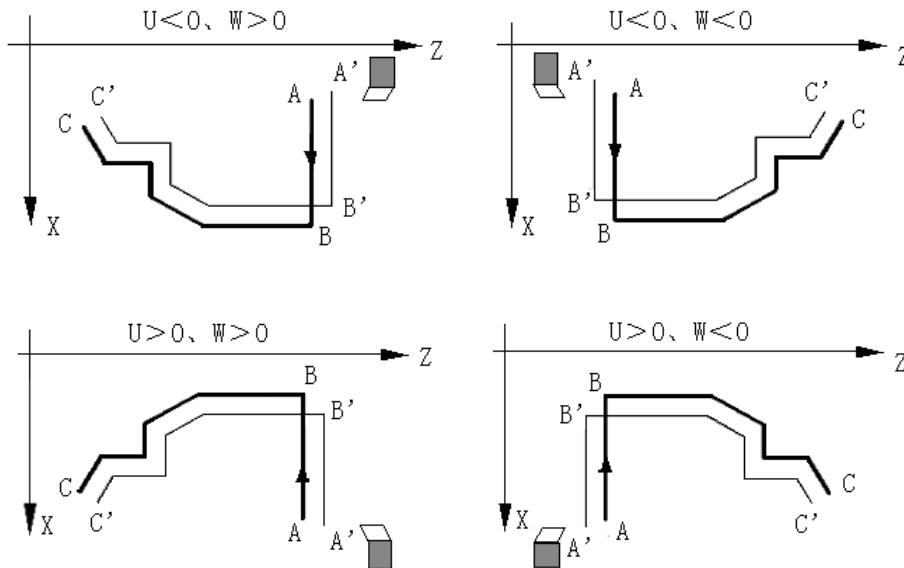

Fig. 4-38
- 1) In executing command ①, the coordinate axis does not move actually, the system automatically memorizes the offset value to the internal and the value keeps valid; it is 0 by default when it is not specified.
- 2) The offset value set by G71 command ① is only valid for G71 command ②.
- 3) U, W words in G71 command ① must be specified simultaneously.
- 4) X(U), P, Q words in G71 command ③ should be the same as those of G71 command ②; if they are re-input, they must be input completely; the word range is the same as that of command ②.
- 5) In G71 command ③, the command programming rules in P~Q blocks are the same as those of G71 command ②.
- 6) When executing the roughing G71 command ②, the system automatically memorizes X(U), P, Q data of the latest G71; if X(U), P, Q are omitted in G710, the system directly refers the data of the internal memory. Therefore, the words following G710 can be omitted when the system executes finishing to the latest roughed G71 path.
- 9) Coordinate offset direction in reserving roughing allowance: U,W in command ① expresses the coordinate offset and cut-in direction in finishing; there are four kinds of combination according to the signs of U, W (see Fig. 4-38): B→C is finishing path, B'→C' is roughing contour, A is the start-up point.